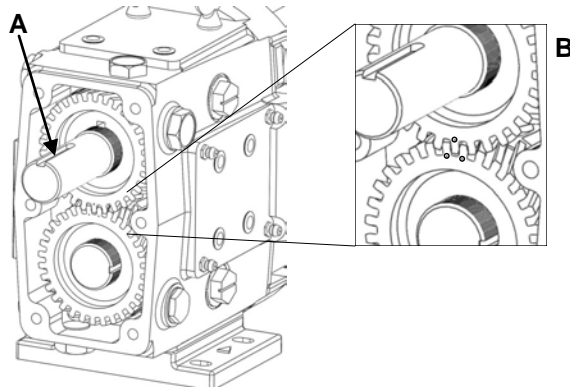

Figure 44: Installing Gears with Correct Timing
8) Once the gear keys are installed, orientate the shafts so that the keyways on the drive shaft are pointing in the 12 o'clock direction (Figure 44, A). Slide the right-handed gear with the single punch mark onto the drive shaft. Slide the second gear with two punch marks on the short shaft. To time the gears, align so that the single punch mark falls between the two punch marks on the opposite gear (Figure 44, B).